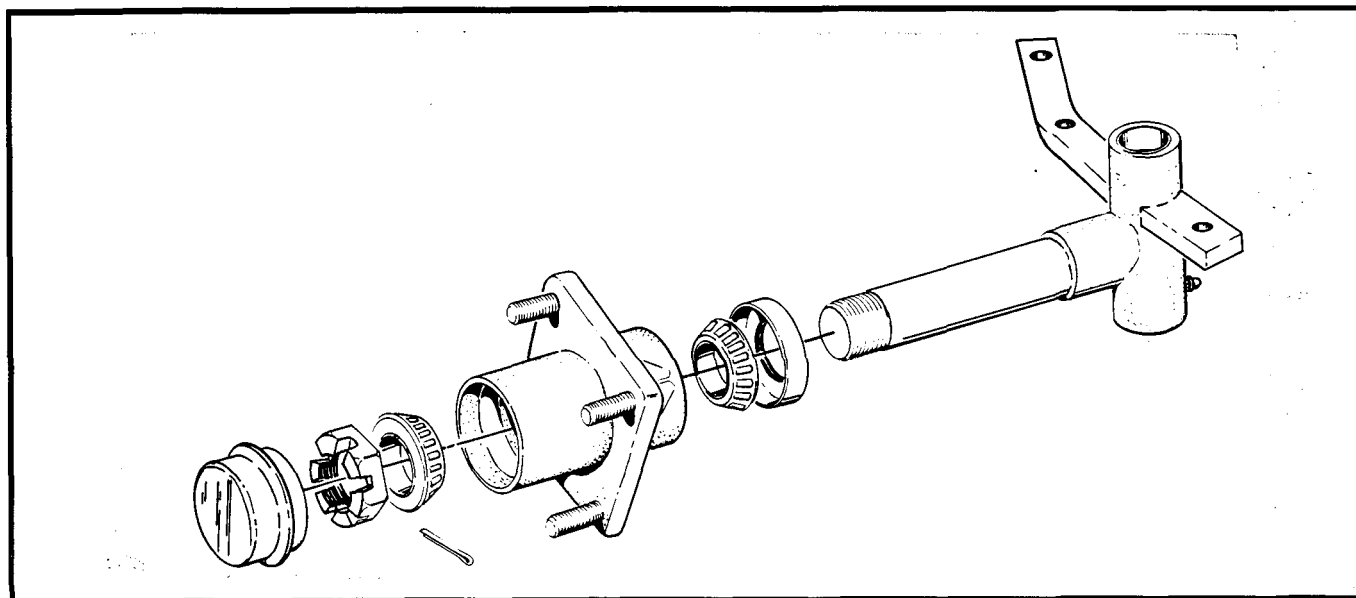
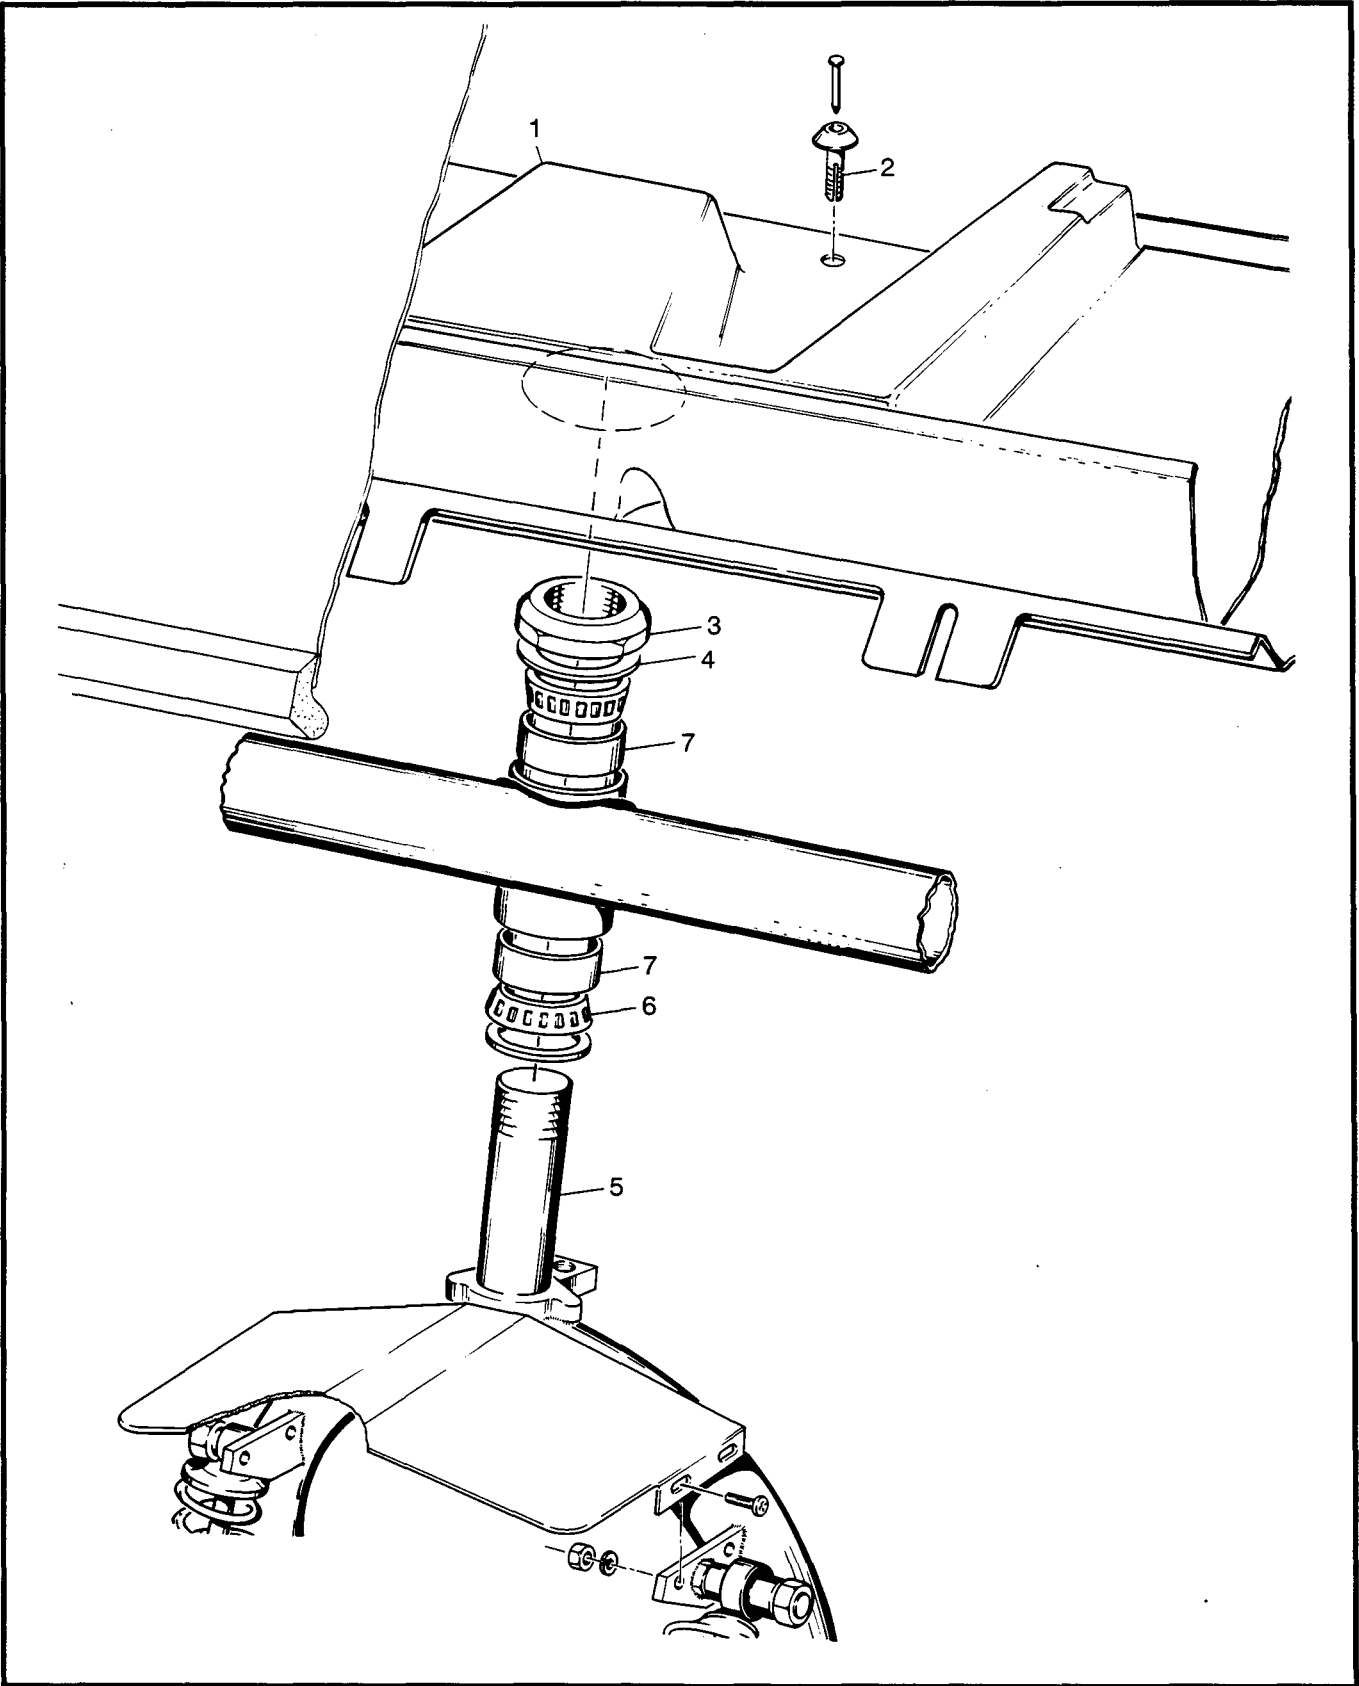
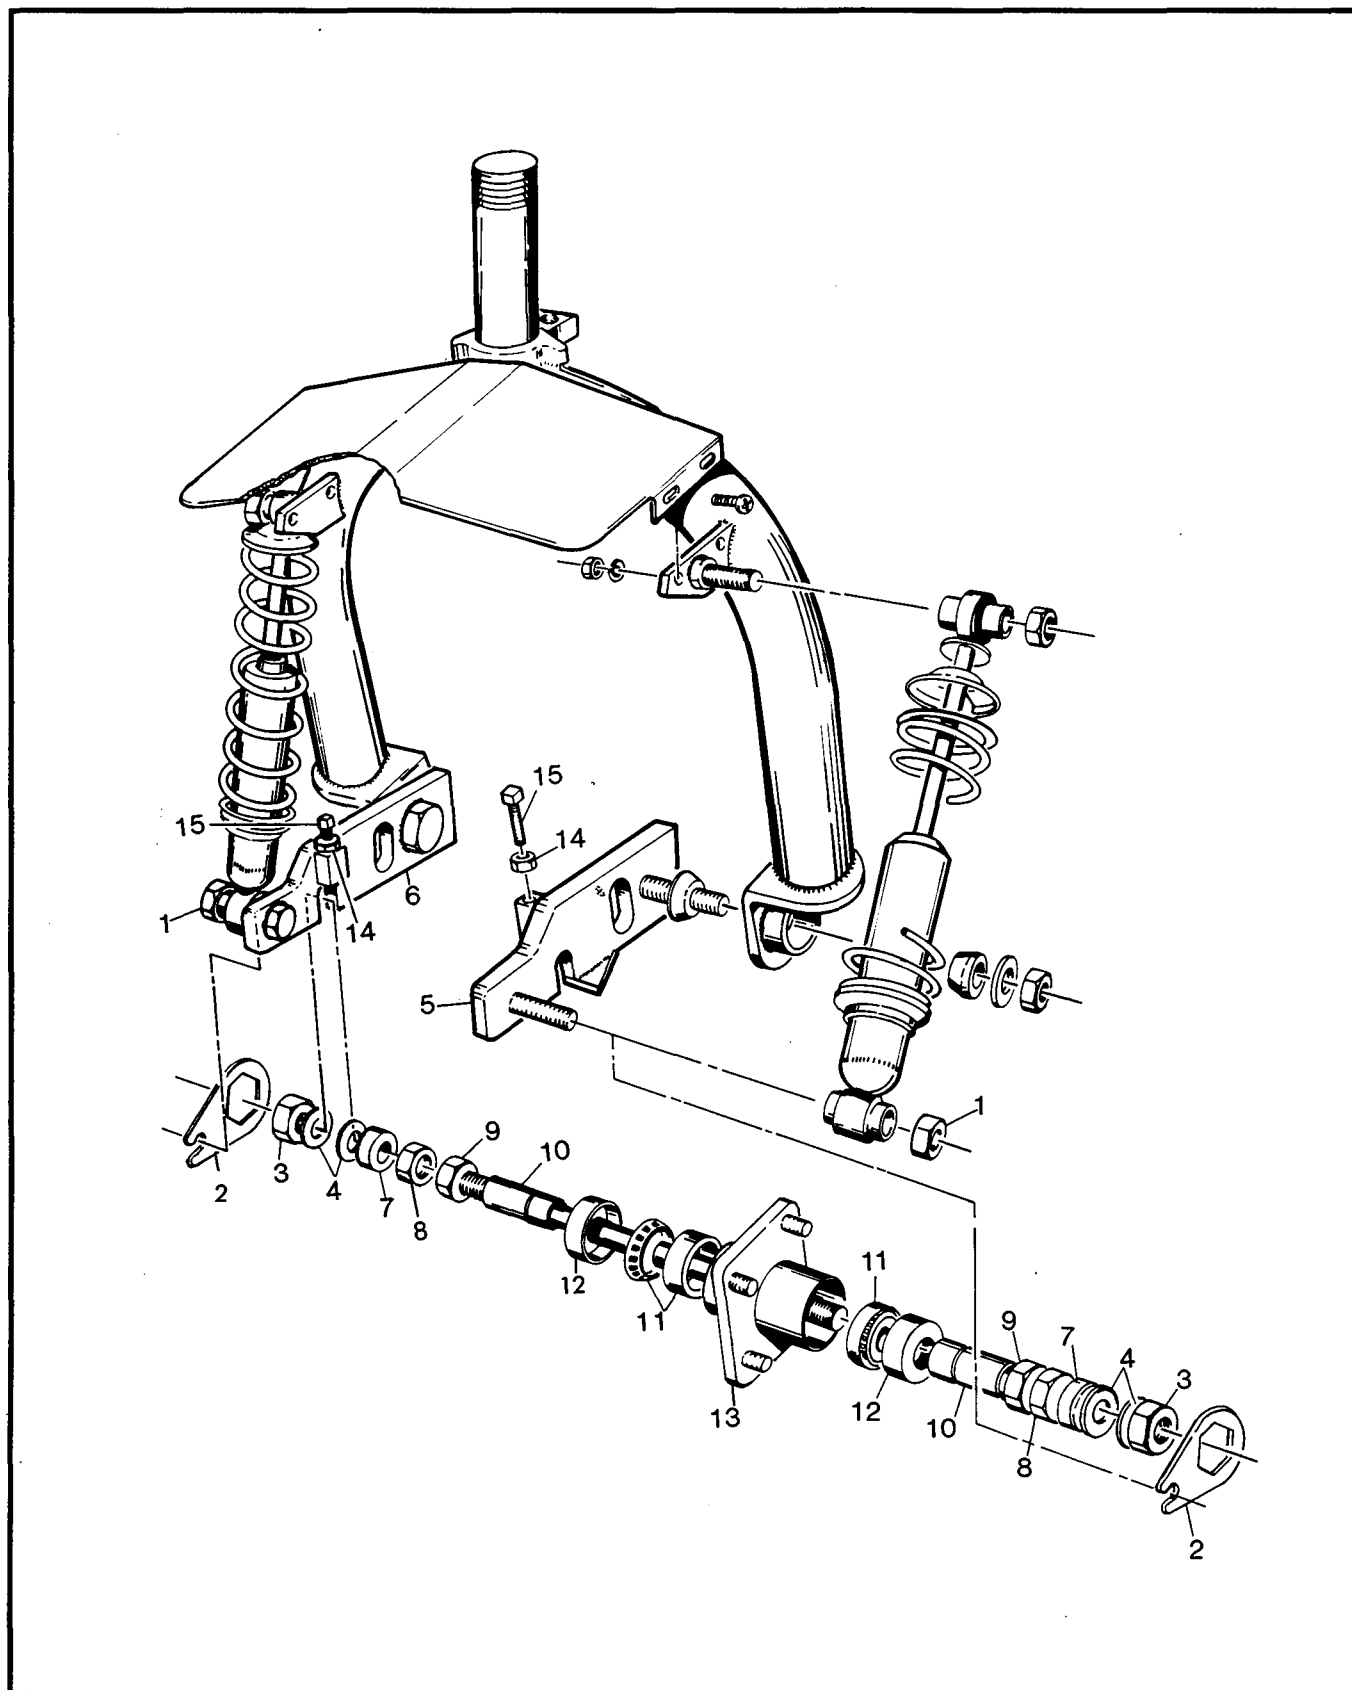
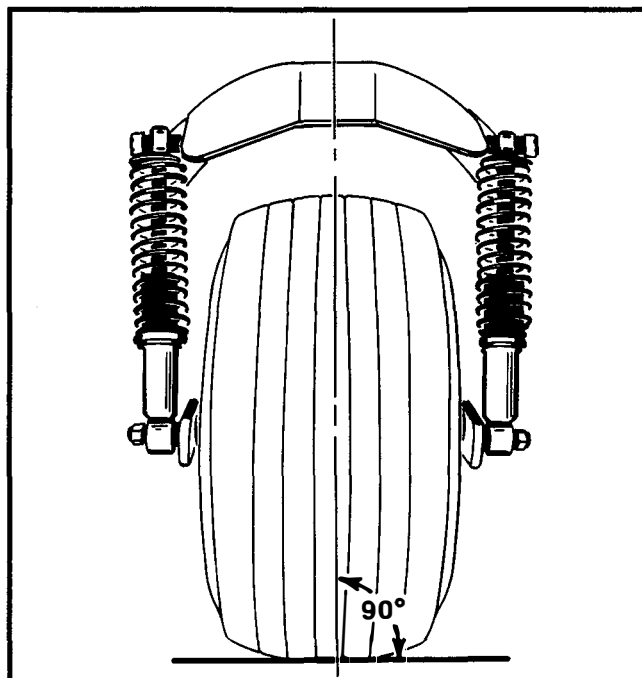

FIG. E-3 FRONT SPINDLE
FIG. E-4 FRONT FORK REMOVAL
FIG. E-5 FRONT FORK ASSEMBLY
FIG. E-7 VERTICAL ALIGNMENT
BEARINGS 4 WHEEL (FIG. E-3) 3 WHEEL (FIG. E-4, FIG. E-5)
(FIG. E-4)
REMOVAL OF FRONT FORK AXLE AND HUB ASSEMBLY (FIG. E-5)
(FIG. E-5, FIG. E-7)
Should the steering tend to pull to one side, the front wheel should be aligned as follows: Position the vehicle on a flat, level surface and set the wheel in a straight ahead position. Loosen the shock absorber nut (1) four to five turns. Remove the axle retainers (2) from the axle nuts on both sides of the fork. Loosen the nut (3) at both ends of the axle (FIG. E-5).